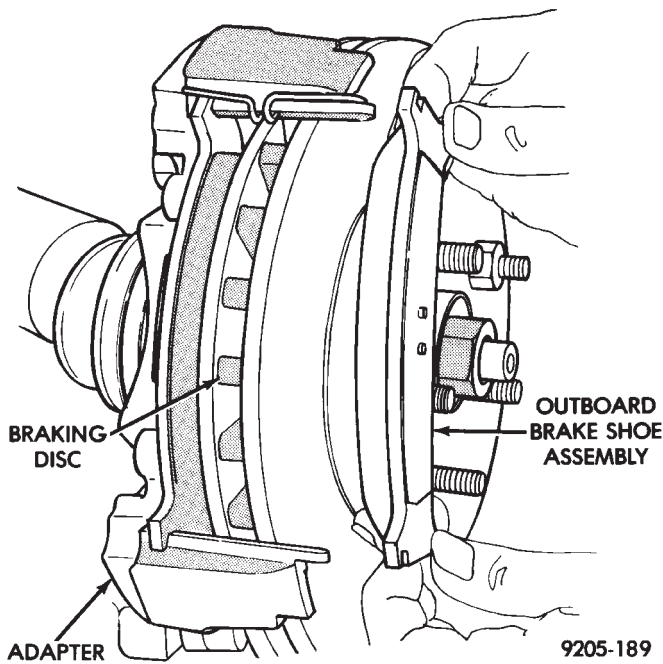

Fig. 5 Removing and Installing Outboard Shoe Assembly
(7) Remove the outboard brake shoe assembly from the caliper adapter (Fig. 5).